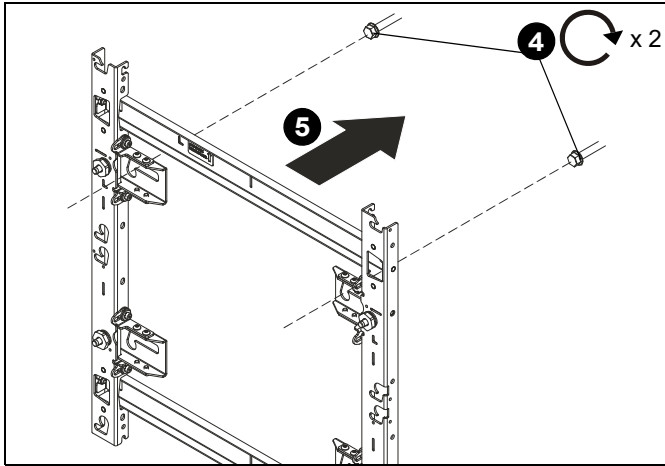

Figure 7
- Partially install two lag screws into wall, but do NOT completely tighten to wall. (See Figure 7)
- Hang wall mount, aligning upper mounting slots over fasteners, and adjust side-to-side for proper location, but do NOT completely tighten to wall. (See Figure 7)